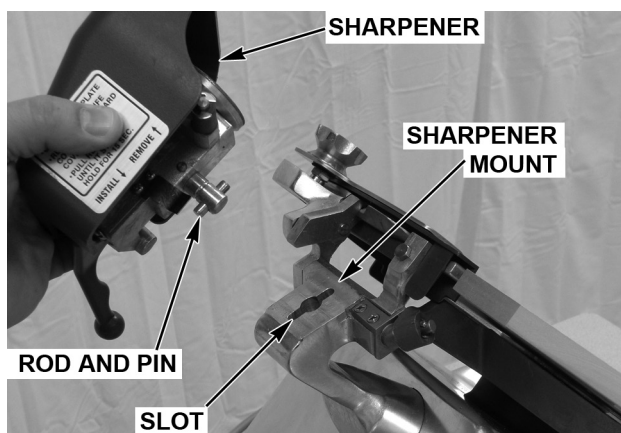

Fig. 7
- The Sharpener (Fig. 7) is mounted on top of the slicer.